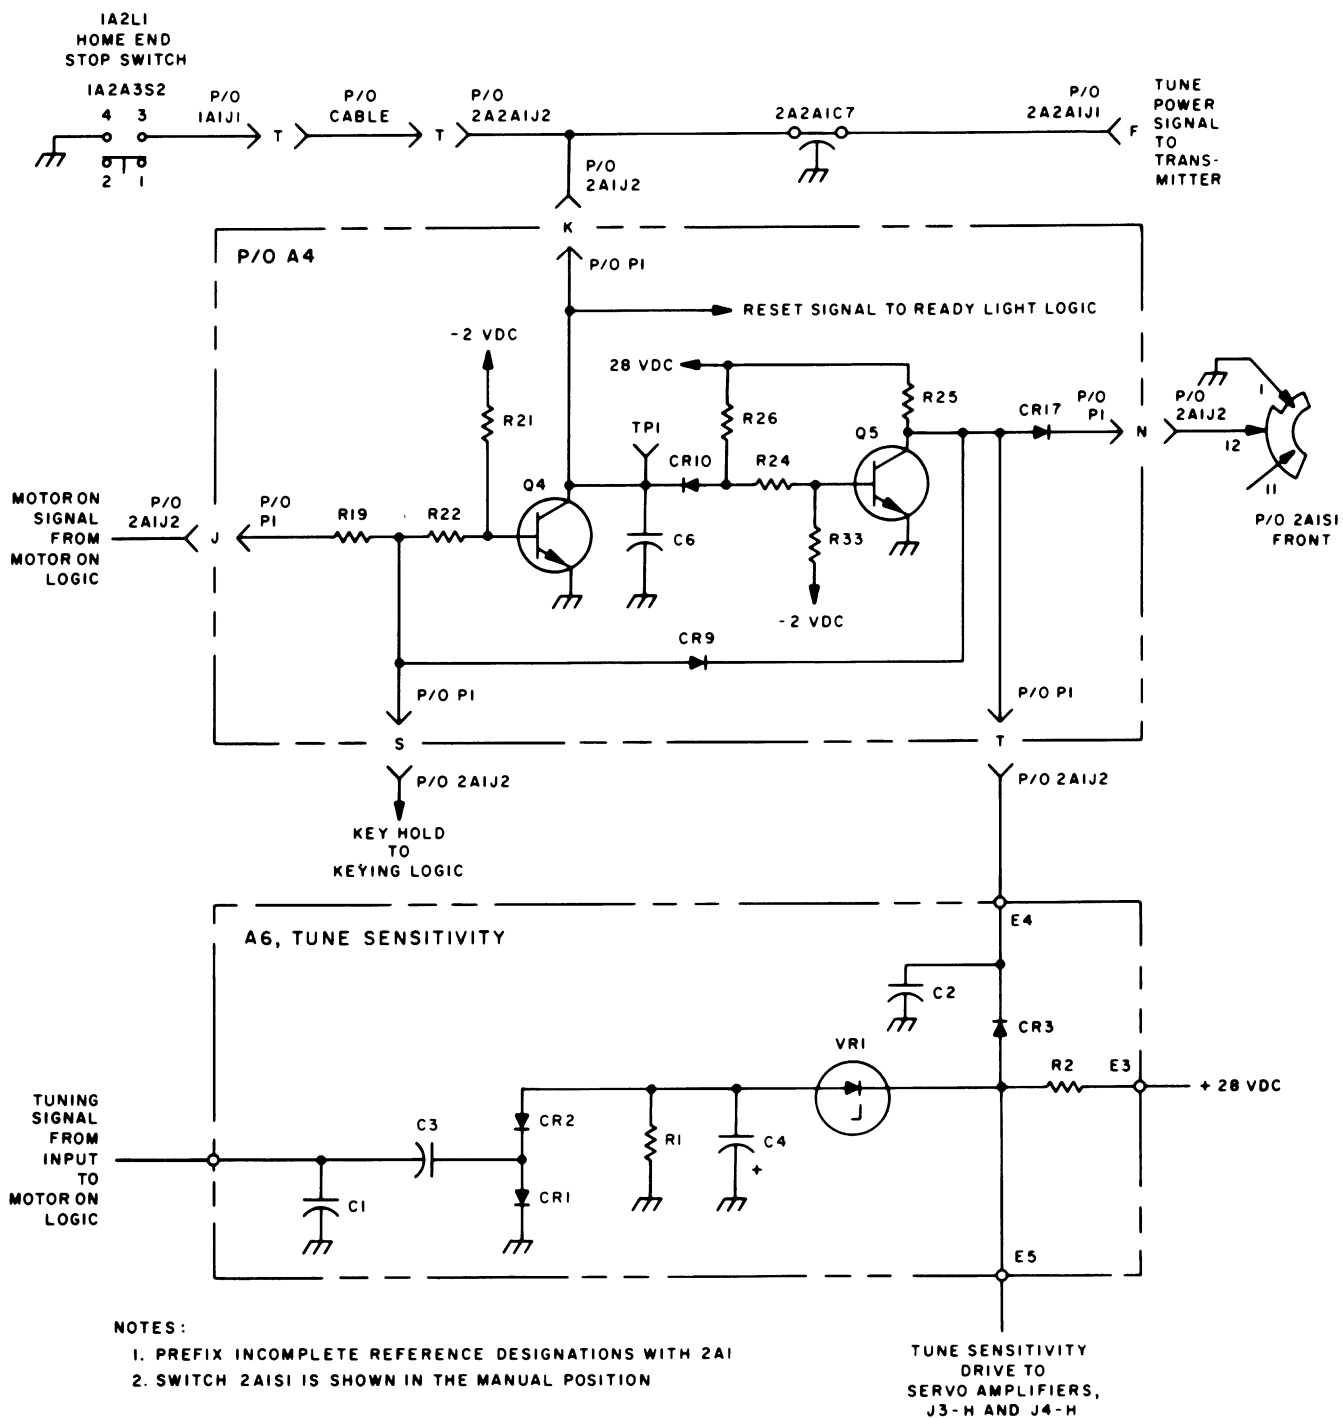

Figure 4.14. Tune Logic, Simplified Schematic Diagram
4.2.9.5 Tune Logic. The tune logic (figure 4.14) consists of two inverters (A4Q4 and A4Q5) and various other associated components. The function of this circuit is to provide (1) a "tune power signal" for application to the transmitter to reduce the RF power level to 150 watts while tuning, and (2) a positive "tune sensitivity drive signal" to increase the sensitivity of the servo amplifiers during the tuning cycle (paragraph 4.2.4). This circuit is used only during automatic operation.